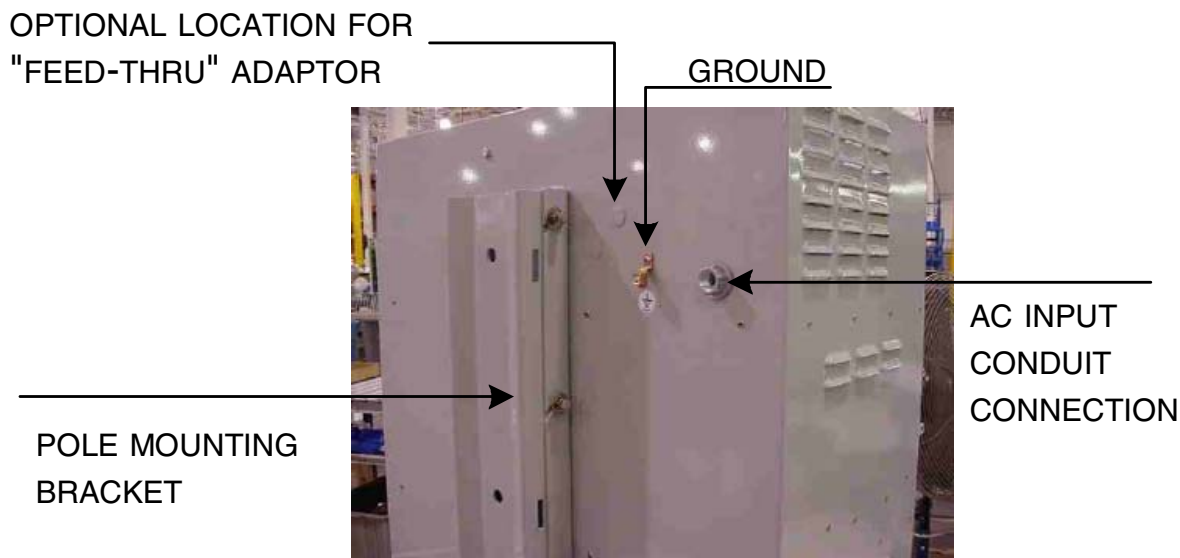
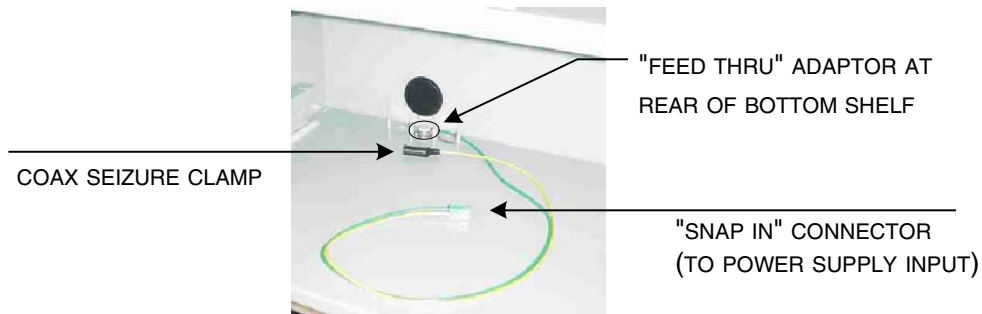

Fig. 1-3, Pole Mount (Rear View of cabinet)
Fig. 1-5, Coax "Feed Thru" Adaptor Normal Location (Bottom Shelf)
5. Using the output wire harness (green and yellow wires with “snap-in” connectors, a seizure clamp, and O-ring) and cable “feed through” adapter from the parts kit, install the cable adapter and ground wire. Insert the cable adapter from outside the cabinet into the paint-masked hole. The adapter may be mounted on the back of the cabinet, (Figure 1-3), or in one of the holes in the bottom battery shelf (typical for ground mounting, see Figure 1-5). Use the lock nut to secure the adapter and the large O-ring to the cabinet. Tighten securely. Repeat this procedure for units with dual outputs (24 amp model).